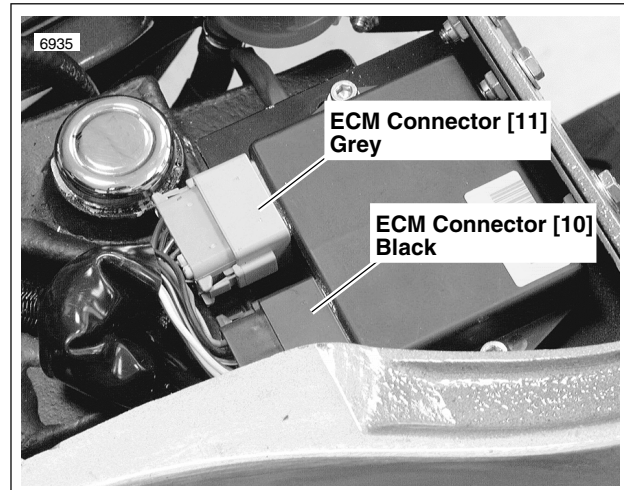

Figure 4-23. Electronic Control Module
- See Figure 4-23. If the lamp goes off when the black ECM connector [10] is unplugged, the BK/Y wire is **not** shorted to ground.